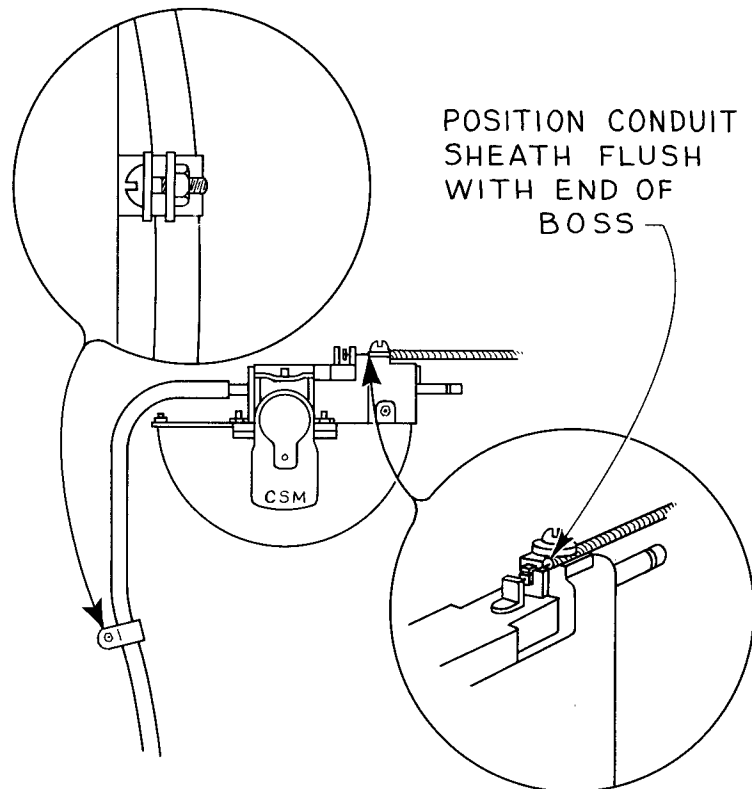

FIG. 5
**4. MOTOR AND HOSE** Disconnect hose at wiper motor and attach a vacuum gage to hose. Gage should register from 14 to 16 inches of vacuum at idle. If it registers less, the volume of air moving through the motor may be reduced by a restricted hose. The clamp on the dash (see Fig. 5) may be turned down too tightly. If this condition has remained for some time, the restriction in the hose may be permanently set; therefore, replace the hose. If the gage reading is still low, check the vacuum supply as in Step No. 5.
If the vacuum reading is normal and the motor does not operate, inspect the control connection to the motor. The control wire conduit should be flush with the end of the boss or pad as shown in Fig. 5 to assure full windshield wiper and washer action. Other positions may interfere with the valve action.